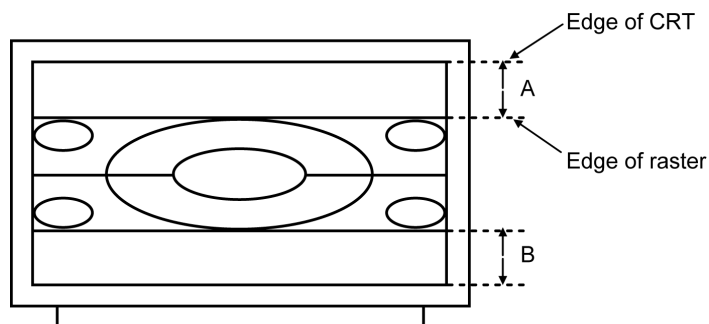

Fig. 1
- c. Confirm that A, B in Fig. 1 is  $4.0\text{ cm} \pm 1.5$ , if not, adjust V-ZOOM.
- c. Confirm that A, B in Fig. 1 is \*a, if not, adjust V- ZOOM.